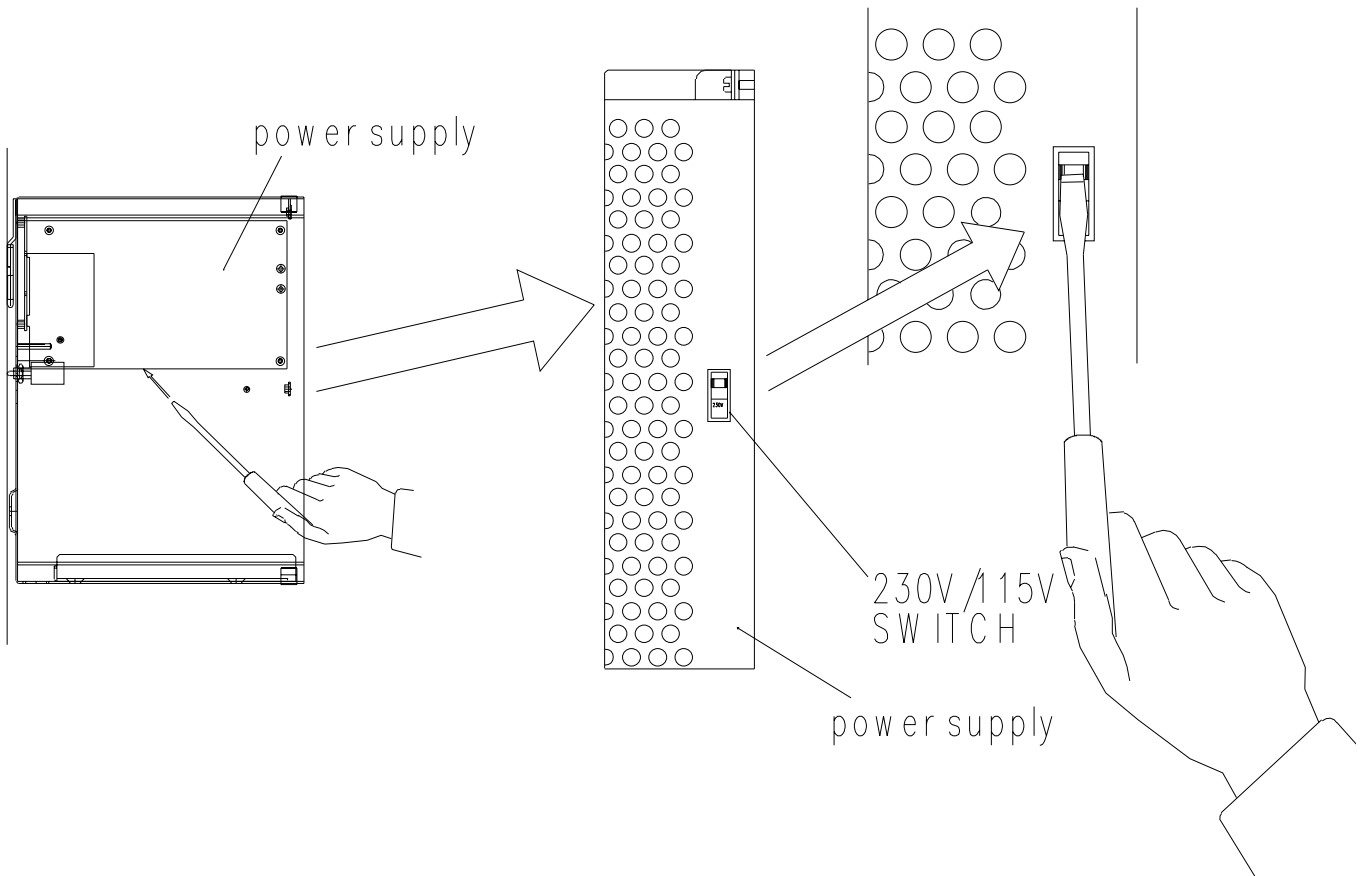

Figure 1. Input voltage adjustment
7. Select the correct voltage (230V/115V) on the power supply (see Figure 1); the factory setting of the voltage selection is 230Vac.